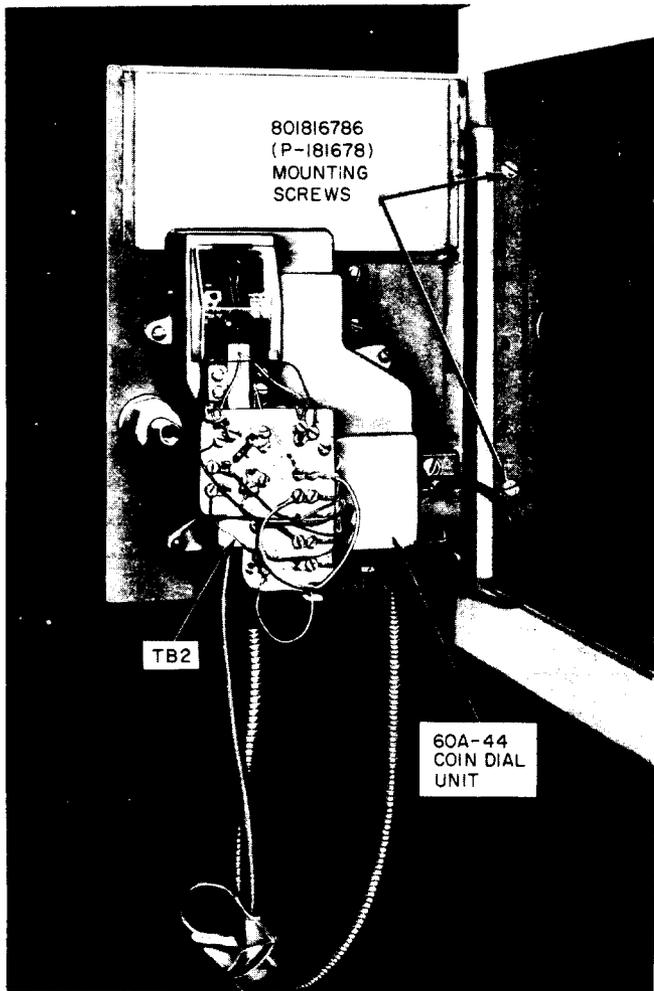

Fig. 4—755AM Telephone Set Rear View of Door Assembly
- (3) Position door and frame assembly so mounting holes located in the frame align with the mounting screws used to secure door and frame assembly to the apparatus box (Fig. 4).
- (4) Connect P1 plug of the 60A4 coin dial unit to J1 jack of the network and chassis assembly.